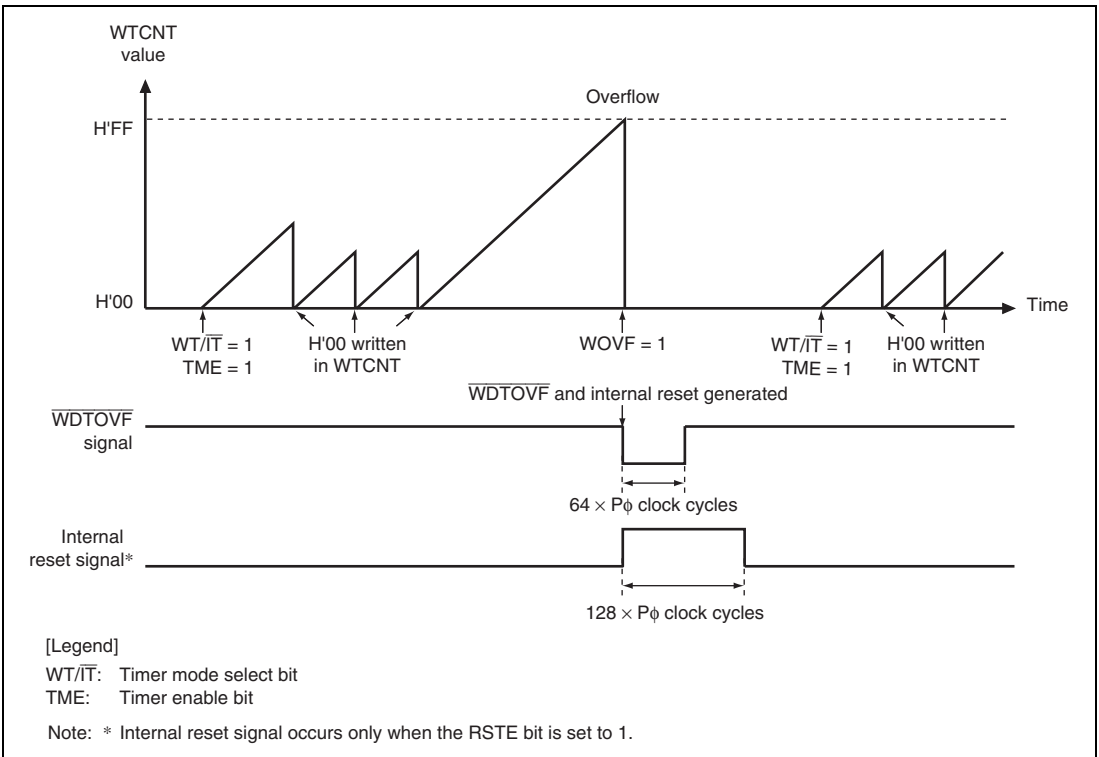

Figure 10.4 Operation in Watchdog Timer Mode
4. When the counter overflows, the WDT sets the WOVF flag in WRCSR to 1, and the \overline{WDTOVF} signal is output externally (figure 10.4). The \overline{WDTOVF} signal can be used to reset the system. The \overline{WDTOVF} signal is output for $64 \times P\phi$ clock cycles.